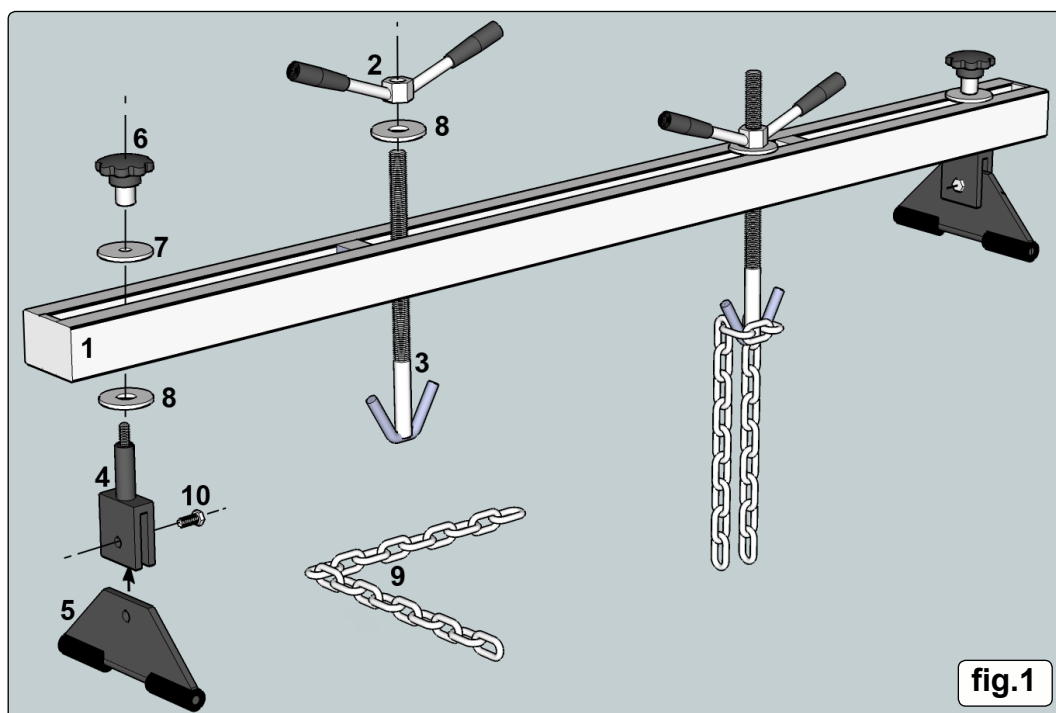

fig.1
**Note:** Numbers in brackets refer to item numbers shown in fig.1
- 3.1. Insert a foot (5) into the slot in the standing block (4). Align the holes in the two components and join them together using an M10 x 30 bolt (10).
- 3.2. Place a large washer (8) over the upstanding rod on the standing block
- (4) and insert the rod through the slot in the main support guide from underneath. Place a large washer (7) over the thread on top of the rod and secure the assembly to the main support guide by screwing on a grip knob (6) as shown in fig.1. Assemble the other foot/standing block and fix the assembly to the other end of the main guide beam in the same way.
Refer to fig.1